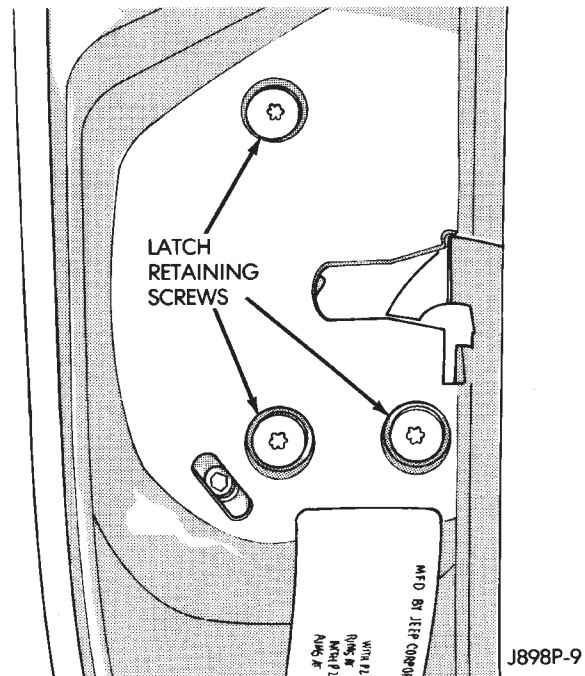

Fig. 8 Latch Remove/Install
- (8) Remove plastic water dam sheet.
- (9) Remove latch retaining screws (Fig. 8).
- (10) Grind out or drill out the lock motor rivets